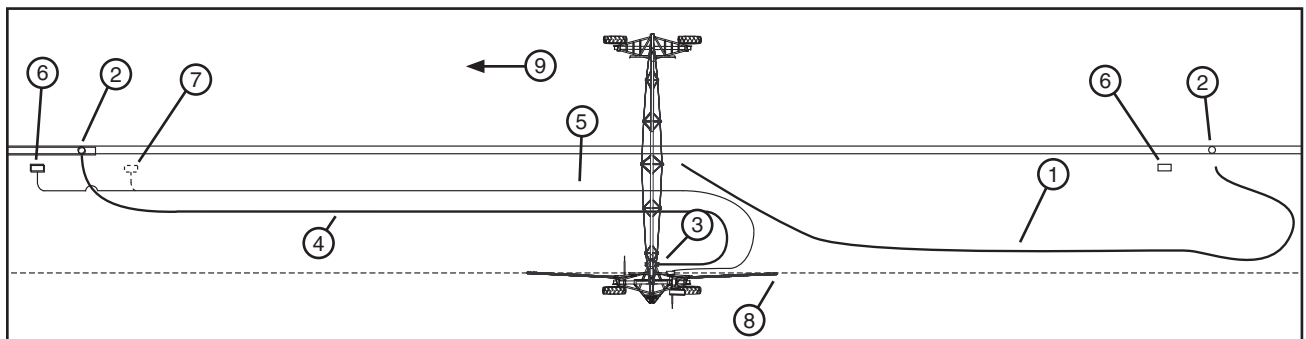

Figure 57-2 1. First Hose 4. Second hose 7. Alternate Power Pedestal and Electric Cord Position
22. Disconnect the first hose from the shut off valve so that water from the hose drains away from the cart path. Then unlatch and disconnect first hose from tee inlet. See figure 57-2.
23. With second hose connected to shut off valve, position second hose, connect to tee inlet and latch in place. Reposition the end of field/hose stop post for the length of the second hose being used. See figure 57-2.
- (c) Position the electric cord far enough away from the hose and furrow guidance skid, so that the hose or furrow guidance skid will not drag over it. When applicable, prevent interference between the electric cord and hose by positioning the electric cord over the top of hose. See figure 57-2.